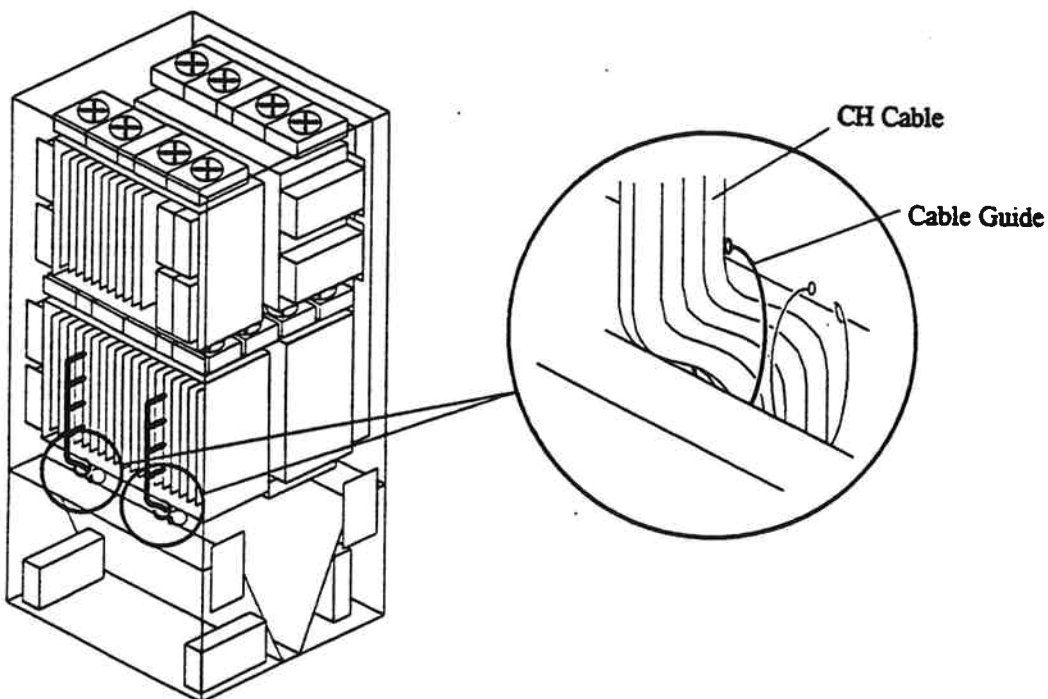

Fig. 3.3.16.3.2-15 Cabling
- a. Connect the CH cables. Refer to Fig. 3.3.16.3.2-16 and Table 3.3.16.3.2-7.